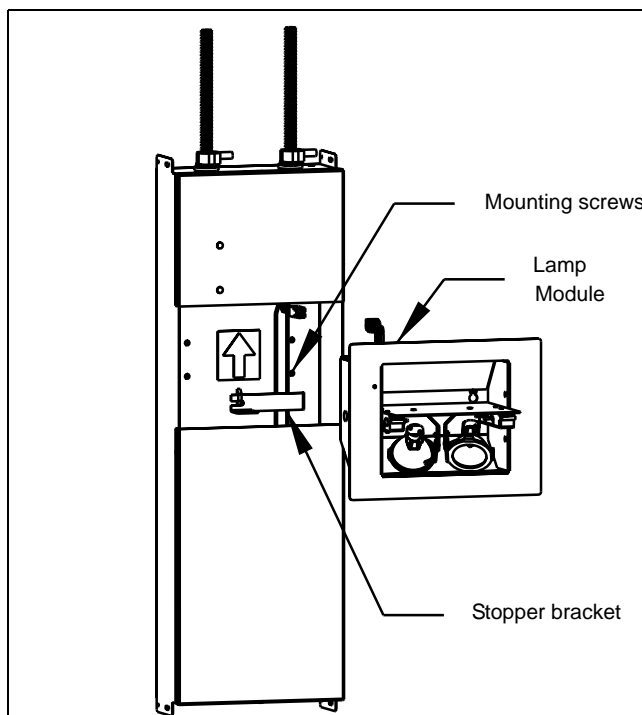

Figure 8
4. Place the two wires under the stopper bracket then slide the bracket towards the left into the slot all the way in the back-box (Figure 8).
- Place the two wires under the stopper bracket then slide the bracket towards the left into the slot all the way in the back-box (Figure 8).
Lamp Module Installation (Figure 8)